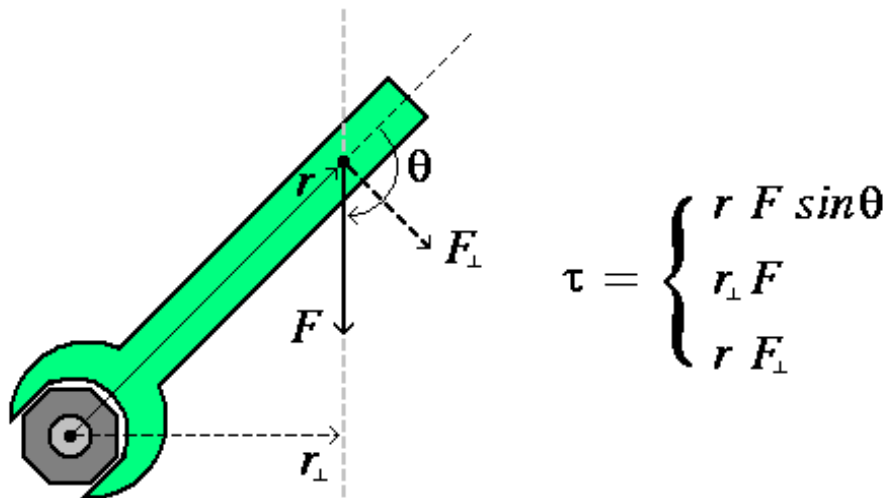

FIG. 2. Torque example.
Equation (1) is the general equation for the magnitude of a torque. An example of its use in determining the torque about the head of a bolt due to the application of a wrench is depicted in Figure 2. The torque direction is perpendicular to the plane of the figure and points into the plane as the right hand rule confirms.